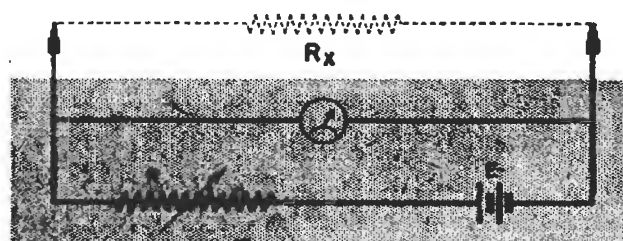

FIG. 28. This shunt ohmmeter is excellent for low-resistance values.
Low-Range Ohmmeter. A shunt-type ohmmeter circuit, shown in Fig. 28, is used to measure low values of resistance. The resistor R is adjusted until the meter reads full-scale with the test leads separated. When the test leads are connected to the resistance being measured, a lower meter reading results, as the unknown resistance R_x is connected in parallel with the meter and acts as a shunt across the meter. Notice these two important facts: (1) zero ohms on the shunt meter is at the left, exactly opposite to a series ohmmeter; (2) if the test